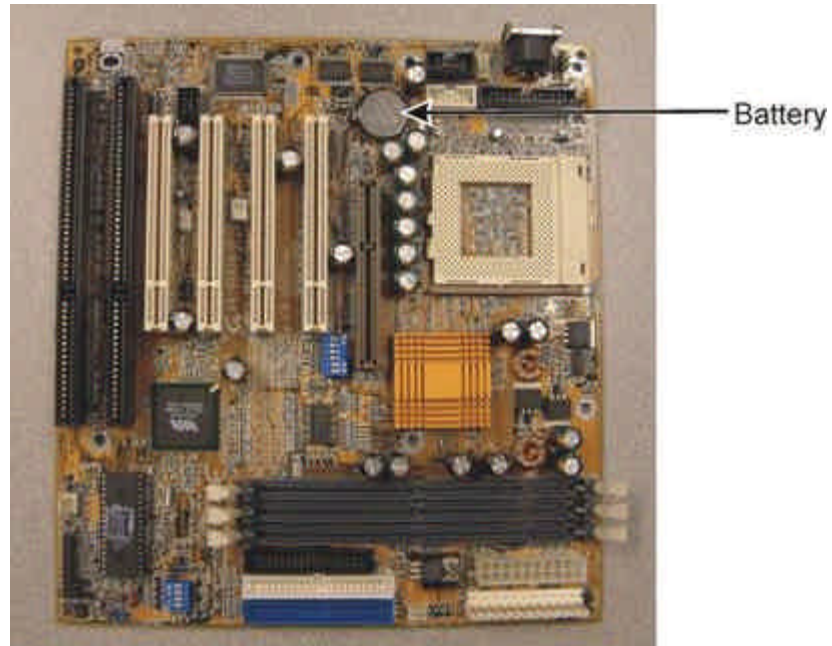

Figure 1: Gigabyte GA-6VA7 Motherboard
- Gigabyte GA-6VA7 (AT form factor, gold in colour) (Shipping October 2000- October 2002) See Figure 1.
- 2** Using a Phillips screwdriver, remove the six screws from the top of the lid of RADAR and loosen the six screws from the side of the lid on RADAR and remove the RADAR lid. Locate the motherboard battery for the specific motherboard as shown in above Figures 1 - 3.